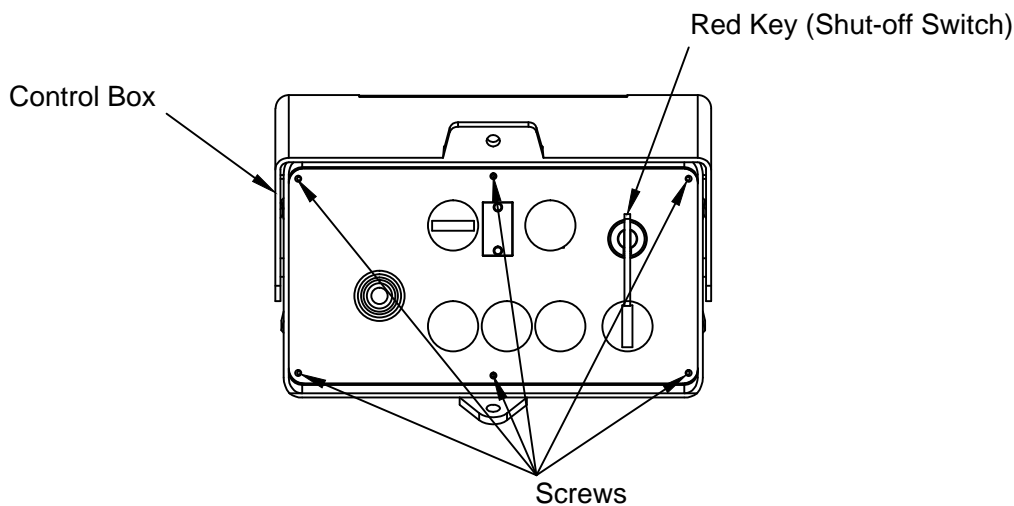

Figure 2: Screws at Control Box for F3CL and F3RE Series.
5. **ONLY FOR F3CL AND F3RE SERIES:** **Unscrew** the six screws and **open** the front panel from the Control Box (Figure 2). Keep the screws and the red key in a safe place since you'll need them later to assemble the Control Box .